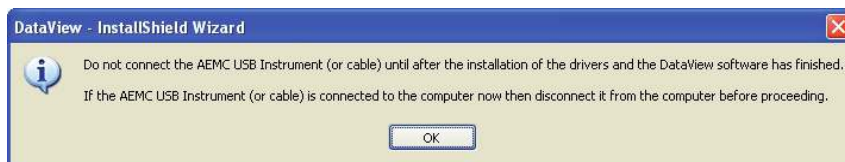

Figure 7-3
10. If the instrument selected for installation requires the use of a USB port, a warning box will appear, similar to Figure 7-3. Click **OK**.